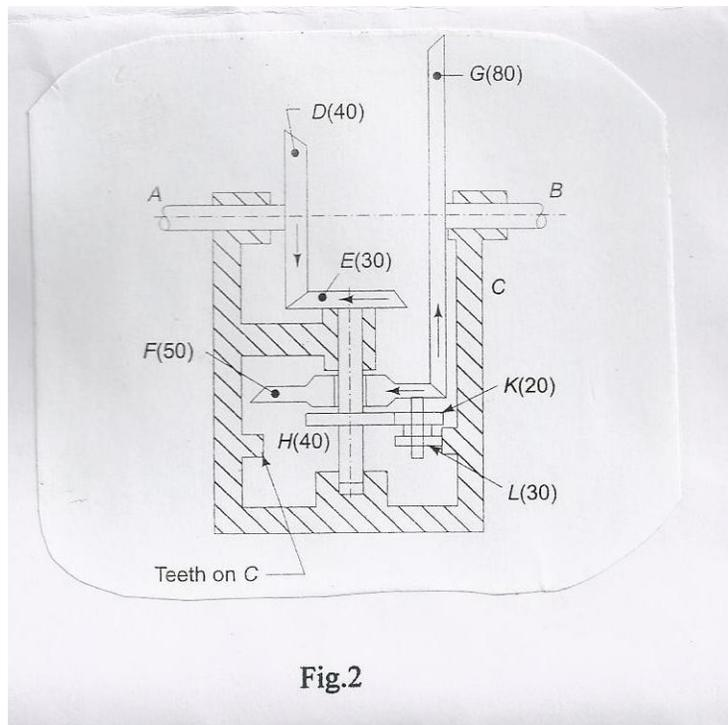

Fig.2
Q.12 In the gear drive shown in the fig 2.,the driving shaft A rotates at 300rpm in the clock wise direction,when seen from the left hand side. The shaft B is the driven shaft. The casing C is held stationary. The wheels E and H are keyed to the central vertical spindle and wheel F can rotate freely on this spindle. The wheels K and L are rigidly fixed to each other and rotate together freely on a pin fitted on the underside of F. The wheel L meshes with internal teeth on the casing C. The number of teeth on the different gears is indicated within the bracket.